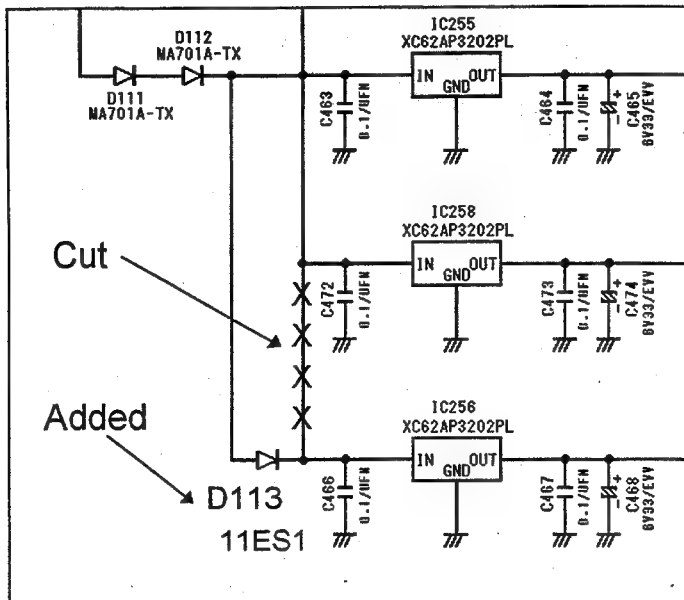

Fig. 1 Page 2-107 (E-3) - AJ-D750
- 1). Cut the foil between terminal I of IC256 and terminal O of D112 on the foil side as shown in figures 1 and 2.
- 2). Add a diode D113 (11ES1) between terminal I of IC254 (anode side) and terminal I of IC256 (cathode side) on the foil side as shown in figures 1 and 3.